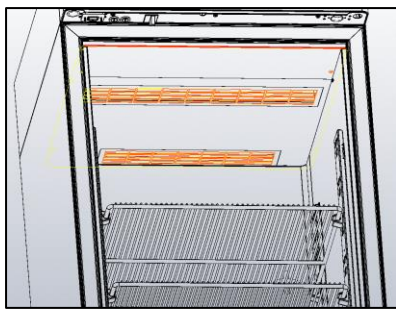
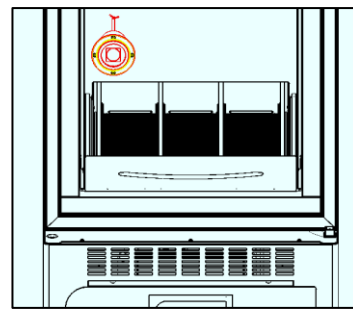

Figure 15 – air vents at the top of the compartment
Figure 16 – position of the SUPERARTIC model pressure equalising valve
- ✓ Do not block air vents (Figure 15) and pressure equalising valve in SUPERARTIC models (Figure 16).